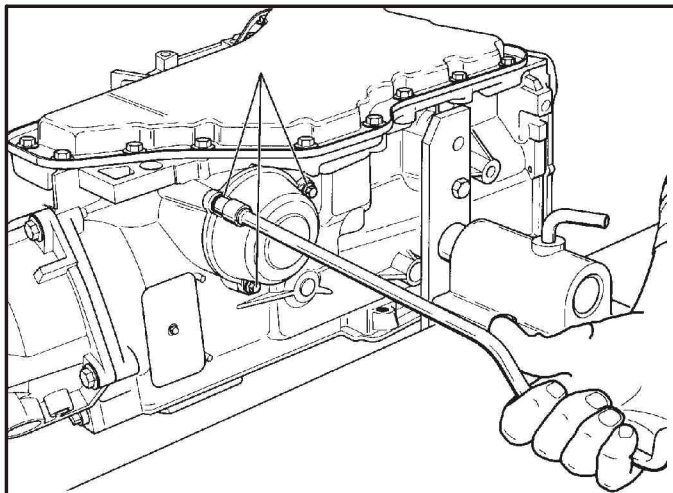

Figure 203
21. Turn the servo cover retaining bolts in evenly using a speed handle, as shown in Figure 203.